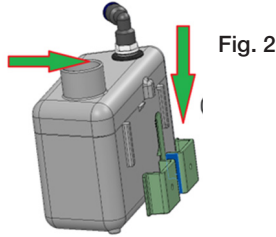

Fig. 2
- Insert NUVOLA MINI into the support bracket until it clicks into place. **(Fig. 2)**